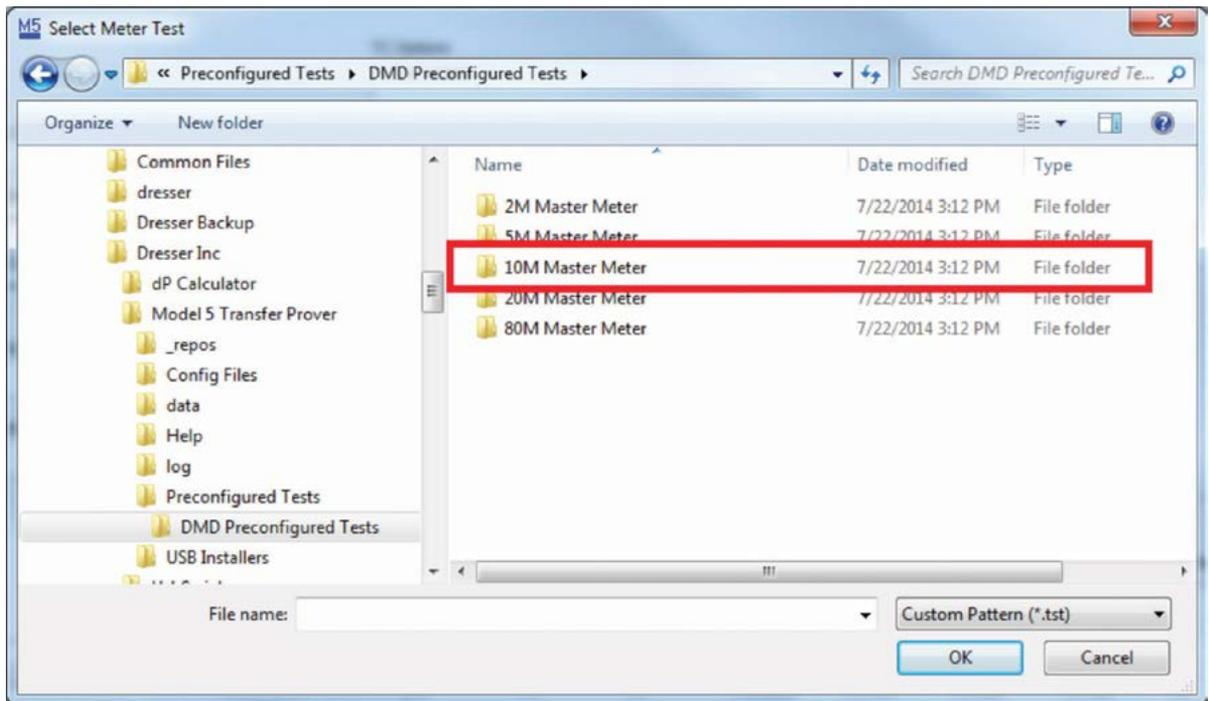

Figure 96: Subfolder Selection
- Several Subfolders will appear. Select the folder that corresponds to the master meter used for testing. See **Figure 96**. The 10M master meter was used for the sake of this example.